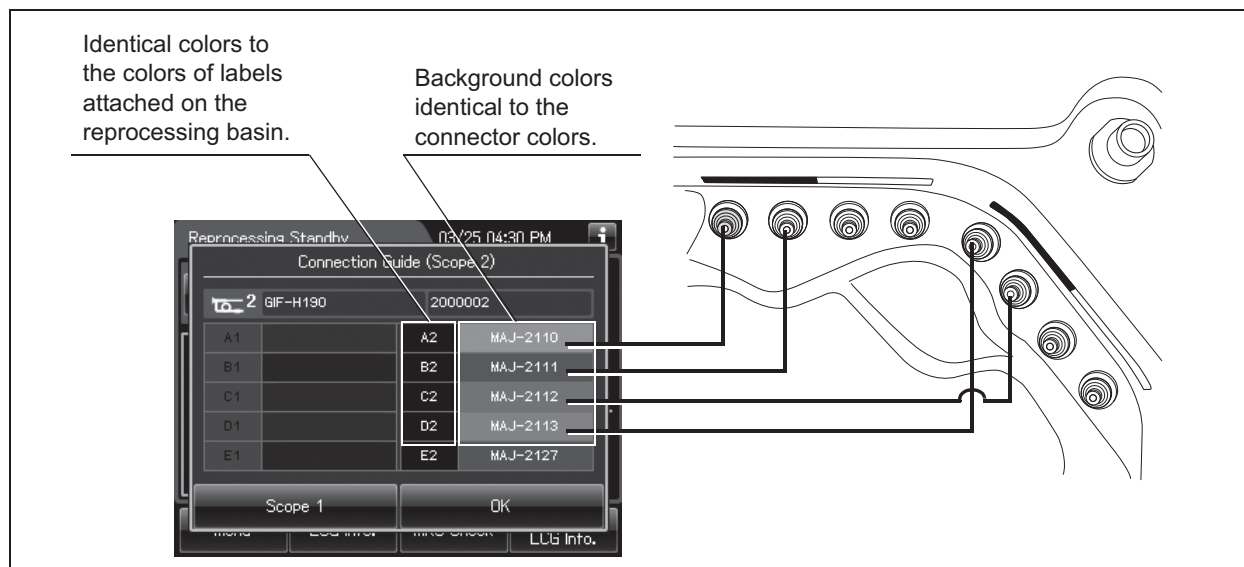

Figure 6.45
- 5 Insert the MAJ-2112 connecting tube into the suction connector of the endoscope until it clicks. For details, refer the Figure 6.45 of “○ Connection guide of second endoscope” on page 206.